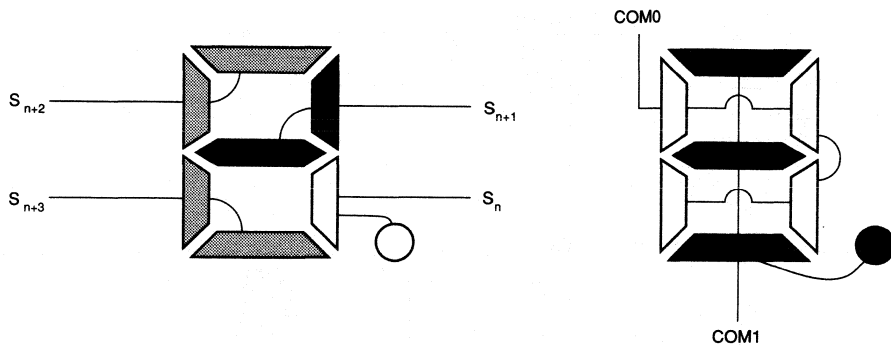
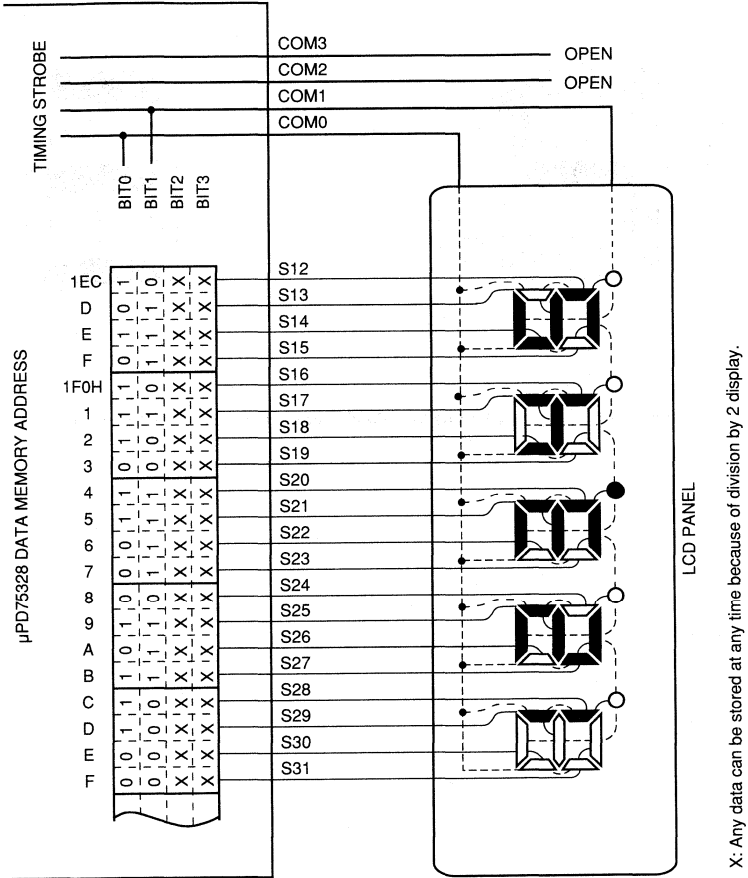

Fig. 5.7-17 Division by 2 Mode LCD Display Pattern and Electrode Connection
Fig. 5.7-18 Division by 2 LCD Panel Connection Example
(2) Division by 2 display example
Fig. 5.7-18 shows connection of the division by 2 mode 5-digit LCD panel having the display pattern shown in Fig. 5.7-17, the μPD75328 segment signals (S12-S31), and the common signals (COM0 and COM1). In the example, 123.45 is displayed. The contents of the display data memory (addresses 1ECH-1FFH) correspond to the display pattern. Here, 3. (3) at the third digit position is taken as an example. It is necessary to output the selection and no-selection voltages as shown in Fig. 5.7-16 to the S20-23 pins at the timing of the COM0 and COM1 common signal according to the display pattern shown in Fig. 5.7-17.